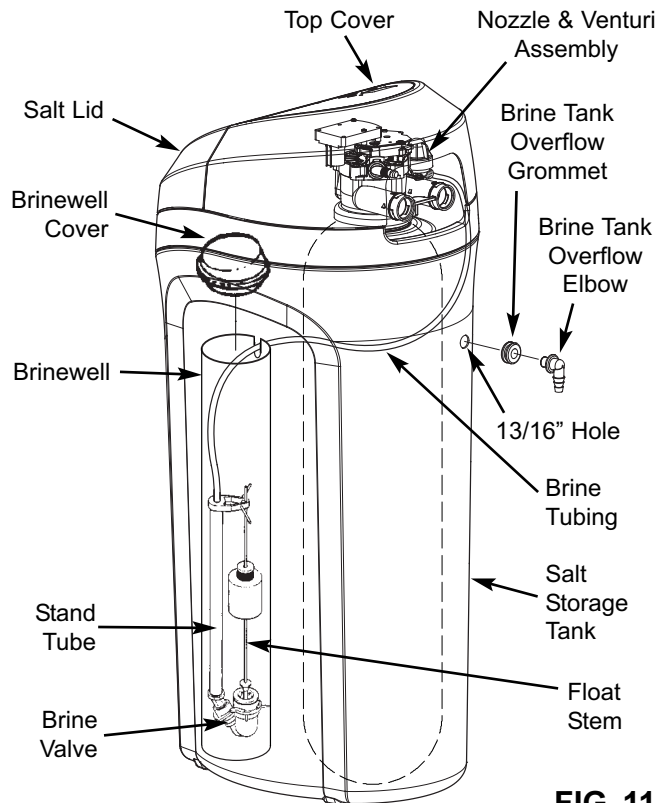

FIG. 11
1. Morton® System Saver® models are factory assembled. During installation, unsnap and remove the top cover, together with the salt lid, to expose the softener valve assembly. Set them aside to prevent damage. Check the brinewell to be sure it is secured and vertical (See Figure 11).